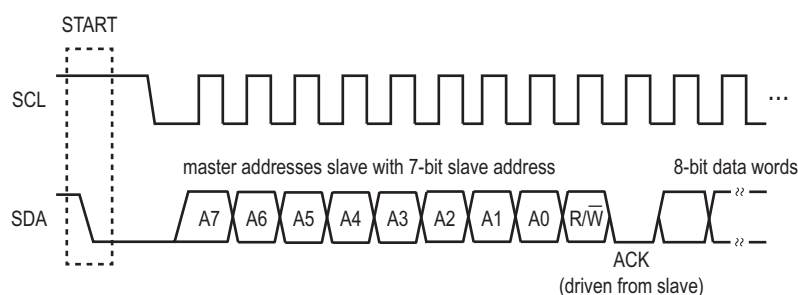

Figure 1-3 Example of I²C Master Commanding a Transfer (7-bit Address)
- 1.8.1 I2C-534 as an I²C Slave** As an I²C slave, the slave on each I2C-534 port is addressed by a master (external or internal by using loopback) and responds to master commands. I2C-534 slaves can be configured with a 7-bit or 10-bit address using UEI API. The I²C slave receiver reads master commands and data from the I²C bus, and the slave transmitter sends data in response to a master request, as described in Section 1.7 (refer to **Figure 1-3**).